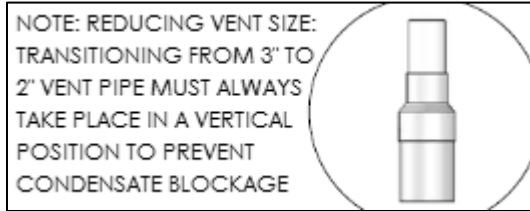

Figure 9 – Transitioning from 3" to 2" Vent Pipe
5. For 2" installations, install a reducing coupling in a vertical section of pipe. See Figure 9.